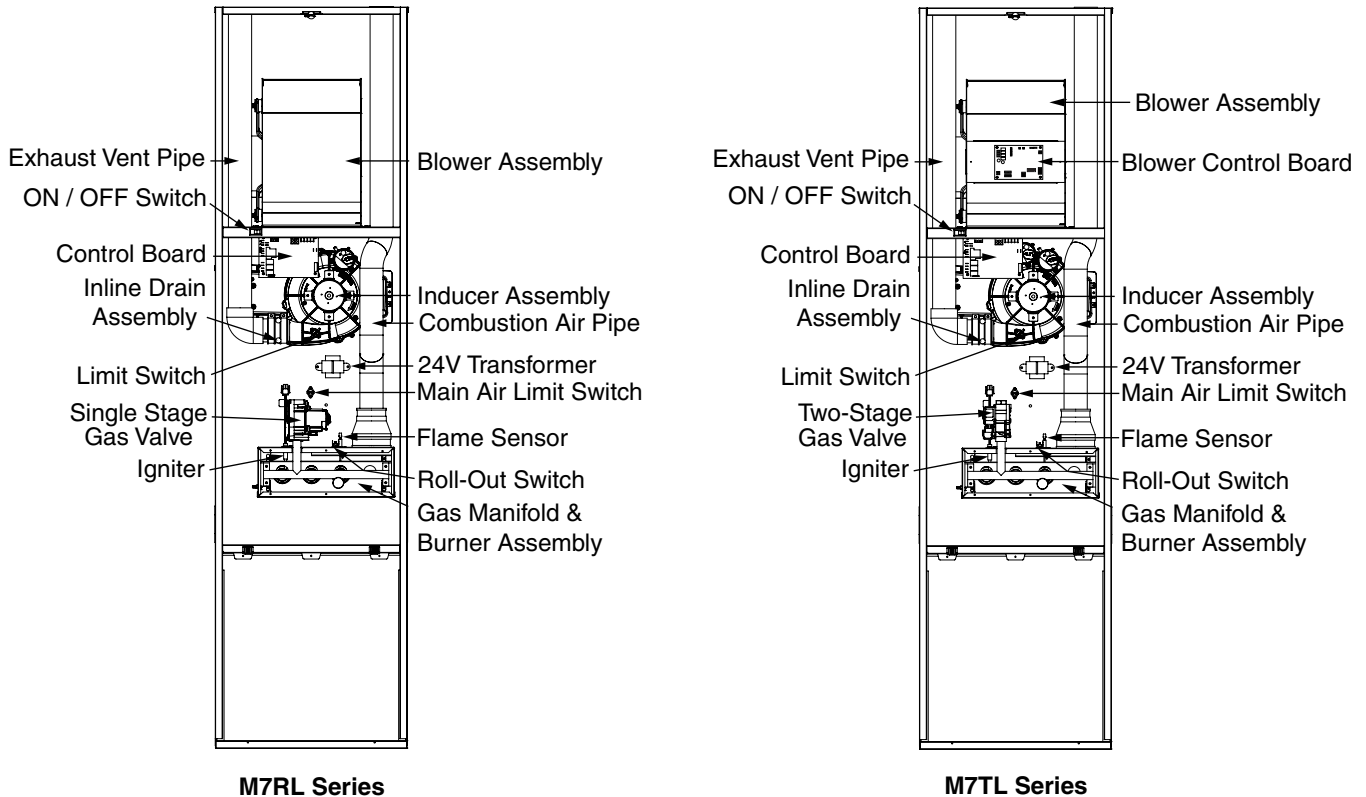

Figure 3. M7RL & M7TL Furnace Components
2. Is the On / OFF switch (inside the blower compartment) turned on? See Figure 3 (page 8).
The furnace components shown in Figure 3 will help identify and locate various parts of the furnace. The component you need to familiarize yourself with is the gas valve. You will use this to turn the furnace on and off. There are no user serviceable parts. All repairs must be done by a licensed HVAC technician.